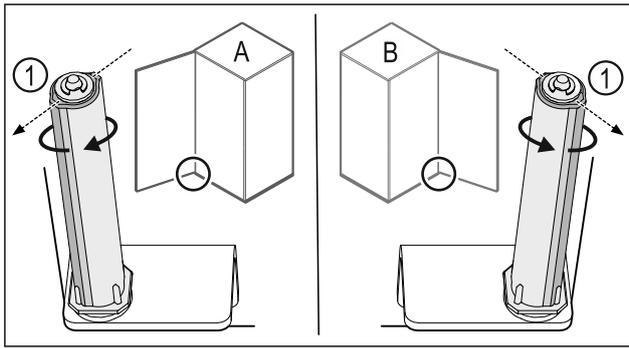

Fig. 42 Left-hinged (A) / Right-hinged (B)
- ▶ Turn the closing system against the resistance until the bar of the closing system Fig. 42 (1) points outwards.